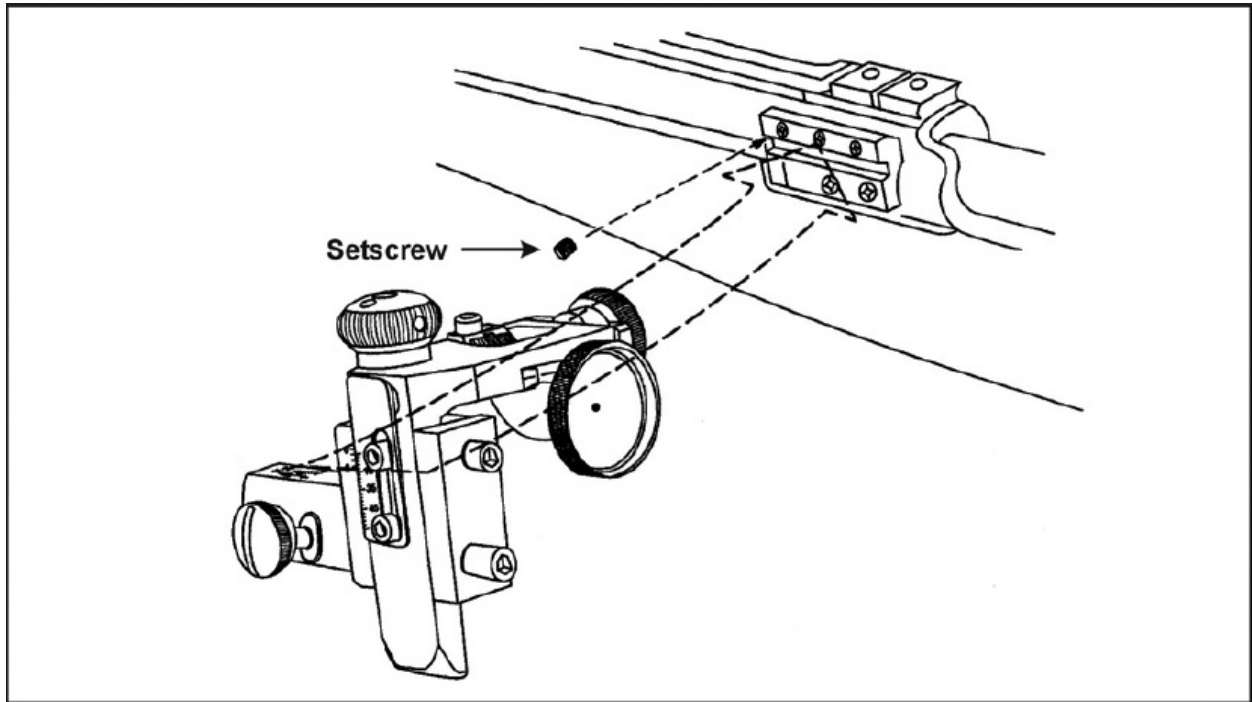

Figure 2-8. Attaching the rear sight assembly
- To attach the rear sight to the receiver, remove one of the three setscrews, and align the rear sight with the rear-sight base located on the left rear of the receiver (Figure 2-8). Tighten the screw to secure the sight to the base. There are three screw holes and two positions for the sight screw to facilitate adjusting shooter eye relief.